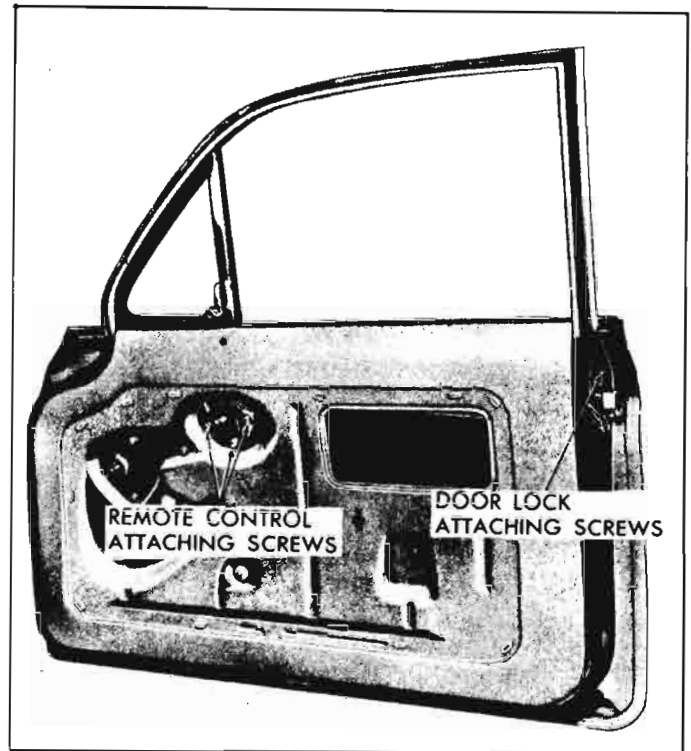

Fig. 10-57—Front Door Lock and Remote Control Attachment
3. Remove screws securing remote control assembly, then while holding remote control rod, rotate remote control assembly approximately one-quarter turn and remove from door (see fig. 10-57).
3. Remove door lock attaching screws (see fig. 10-57).